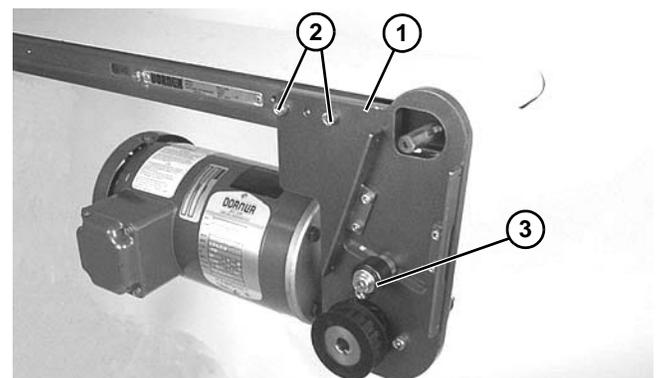
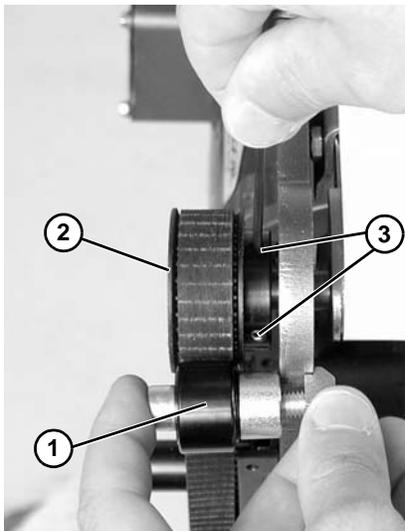

Figure 16
Figure 18
- Attach mounting assembly (**Figure 16, item 1**) with screws (**Figure 16, item 2**). Tighten to 80 in-lb (9 N-m).
8. Remove cam bearing and spacer (Figure 16, item 3). Place the cam bearing and spacer (Figure 18, item 1) next to the driven pulley (Figure 18, item 2). Ensure the flanges of the driven pulley are aligned with the cam bearing. Tighten driven pulley set screws (Figure 18, item 3). This will allow for proper belt alignment while conveyor is in use. Replace cam bearing and spacer (Figure 18, item 1).